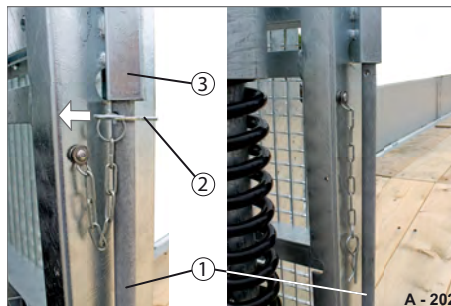

Fig. 81 Unlocking the operating pole
- Pull the spring pin out of the (Fig. 81/2) bore hole of the operating pole (Fig. 81/1).